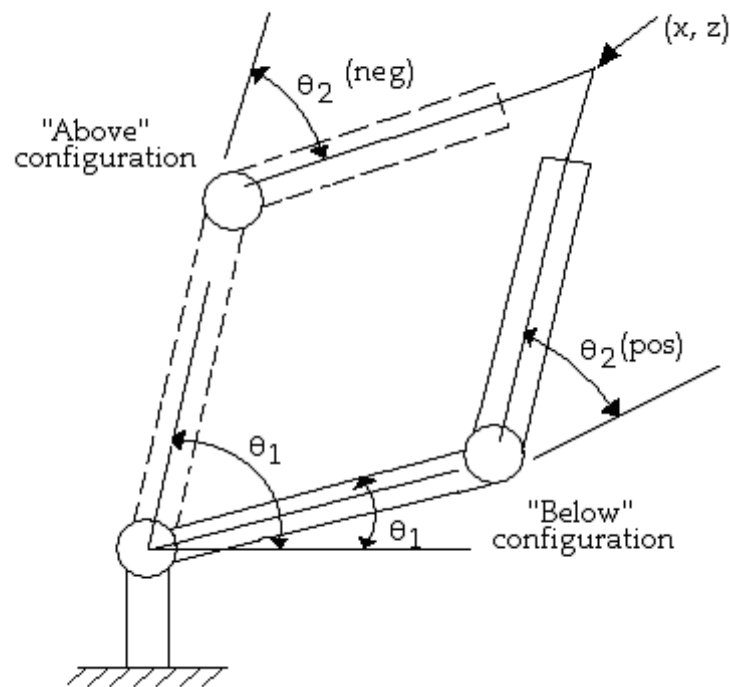
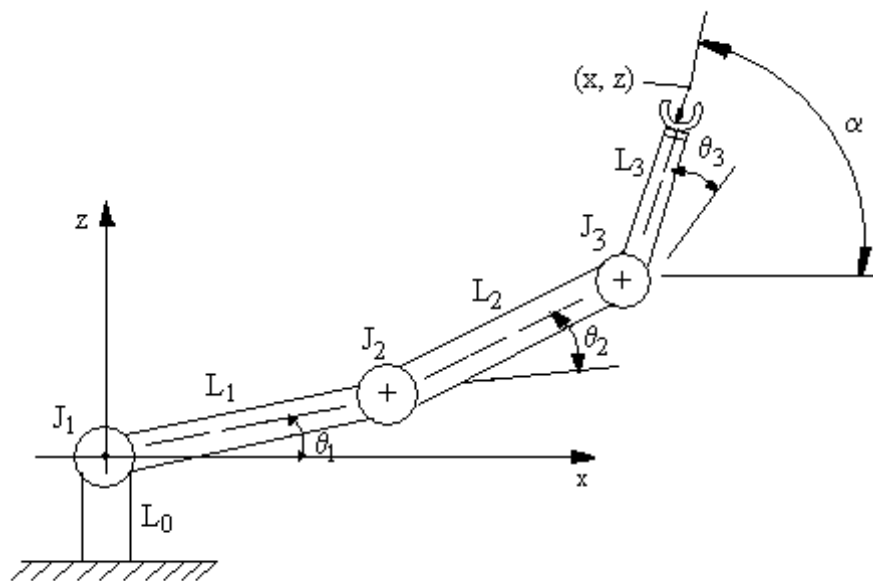

Figure 1a
Figure 1b
- The joints and links of the RR: R manipulator in figure 1a, figure 1b have the following values: $\theta_1=45^\circ$, $\theta_2=45^\circ$, $\theta_3=-135^\circ$, $L_1=500\text{mm}$, $L_2=400\text{mm}$ and $L_3=25\text{mm}$. Determine the values of x and z in world space coordinates. [16]